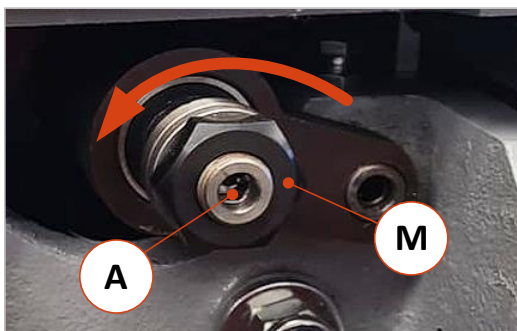

Figure 33: Loosen the scoring saw shaft clamping nut
- Fix the scoring saw shaft (A) with an SW 8 pin spanner and at the same time loosen the clamping nut (M) with an SW 36 open-end spanner by turning it in the direction of the arrow, see ⇒ Figure 33 (right-hand thread!)
- Clean the contact surfaces of the clamping nut (M), the pressure flange (F) and the scoring saw shaft and check all parts for damage, bending and sharp edges. All contact surfaces must be clean and in perfect condition.
- Also clean the contact surfaces of the scoring saw blade (B) before mounting it. First fit the scoring saw blade and then the flange onto the shaft.